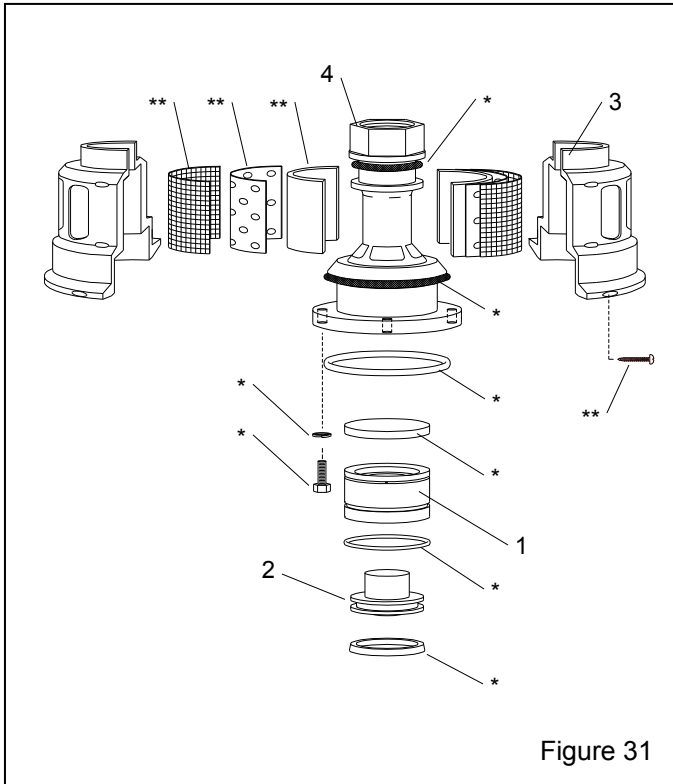

Figure 31
8.9 Millennium Valve Outlet Segment, Figure 31